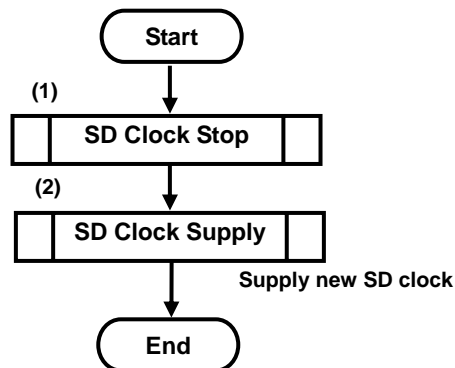

Figure 3-5: SD Clock Change Sequence
This specification uses the double box like Figure 3-1, (the step (1) in Figure 3-5 and the step (5) in Figure 3-24), It means that the other flows, which already are shown, shall be performed. Therefore, the interrupt may be included in the other flows.
The sequence for changing SD Clock frequency is shown in Figure 3-5. When SD Clock is still off, step (1) is omitted. Please refer to Section 3.2.2 for details regarding step (1) and Section 3.2.1 for step (2).